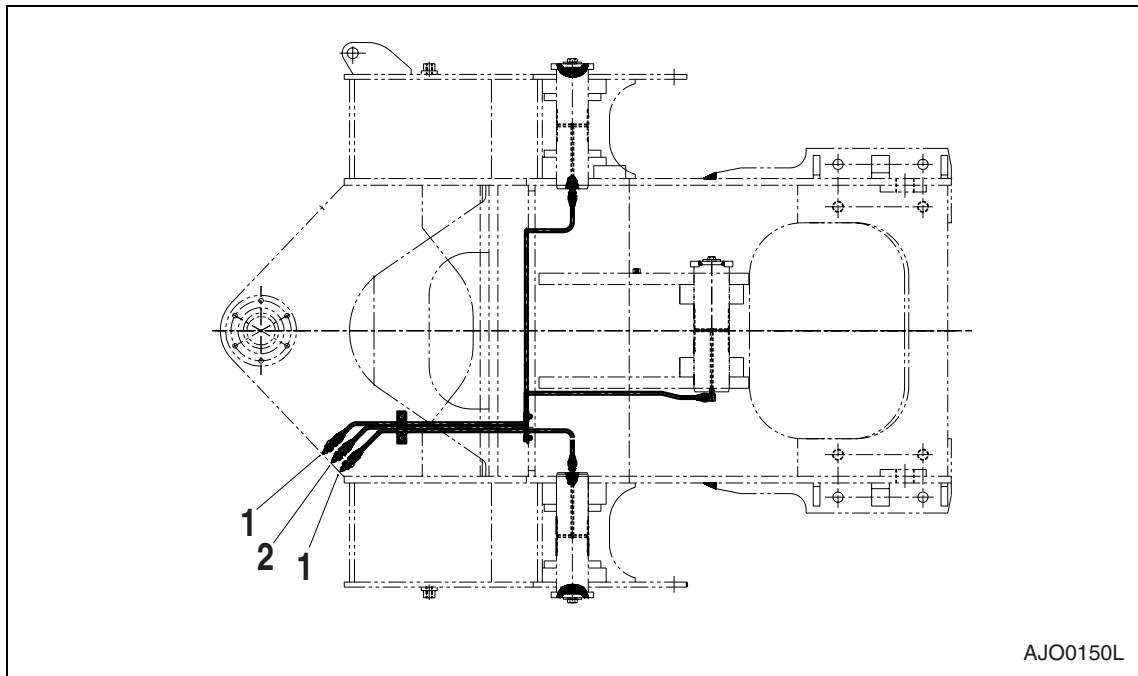

Figure 35
- 1) Loader arm foot ends, 2 locations on each side of machine. Greased from two remote grease points (1, Figure 35).
- 2) Bucket cylinder head, 1 point. Greased from remote grease point (2, Figure 35).